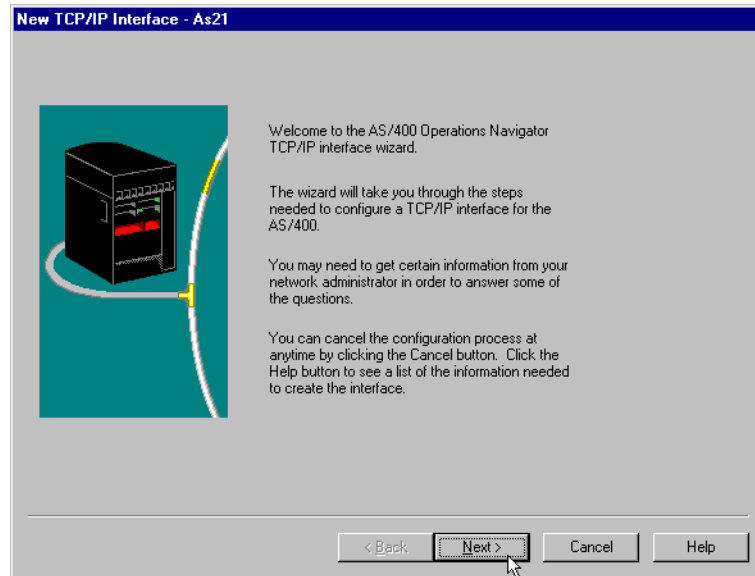

Figure 473. TCP/IP Wizard Interface
2. Follow the wizard's instruction to configure your TCP/IP route. Figure 473 shows the first window of the TCP/IP Interface wizard.